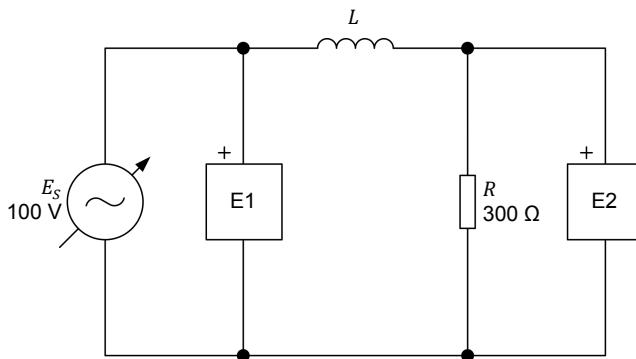

Figure 1-15. AC circuit with a resistor and an inductor.
8. Set up the circuit shown in Figure 1-15. This circuit contains a resistor R and an inductor L . Inductors are studied in the next unit of this manual.
The value of inductor L in the circuit of Figure 1-15 is referred to as the inductance and is expressed in henries (H). The inductance value to be used depends on the frequency of the ac power source as is indicated in Table 1-2.